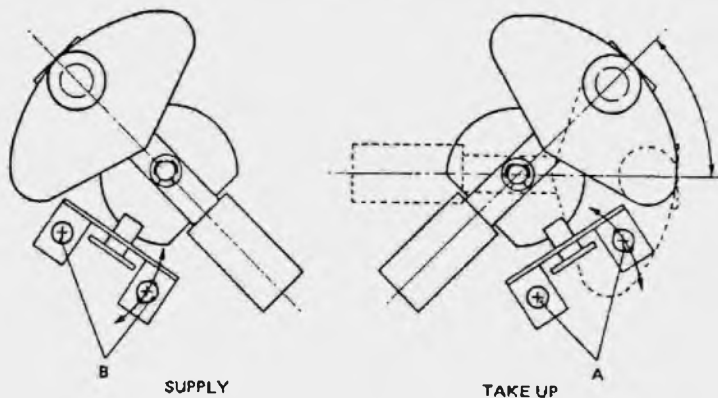

Fig. 5.7
- 3) Loosen screw A, on the Tension Sensor mounting plate (Fig. 5.7), for the takeup side.